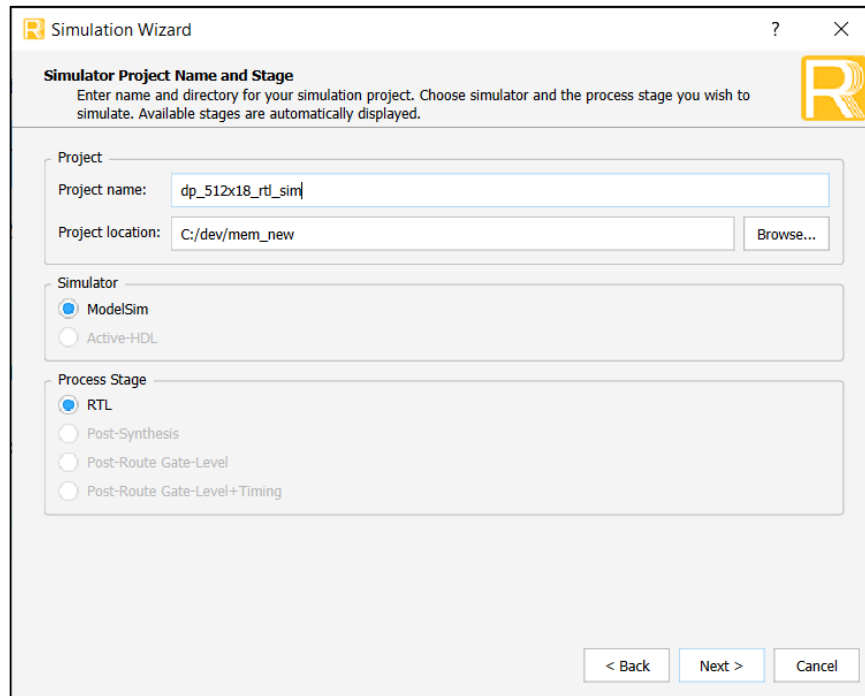

Figure 3.5. Simulation Wizard Simulator Project Name and Stage
1. Click the  button located on the **Toolbar** then click **Next** to initiate the **Simulation Wizard** shown in Figure 3.5.